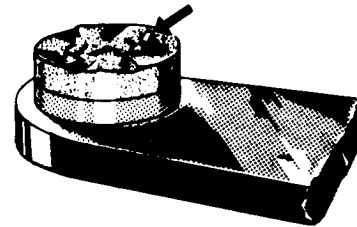

Figure 8A-8. Contact Points
- f. Minor irregularities or roughness of point surfaces are not harmful. (Refer to Figure 8A-8, center.) Neither are small pits or mounds, if not too pronounced. If there is a possibility of pit becoming deep enough to penetrate pad, Figure 8A-8, right, reject contact assembly.